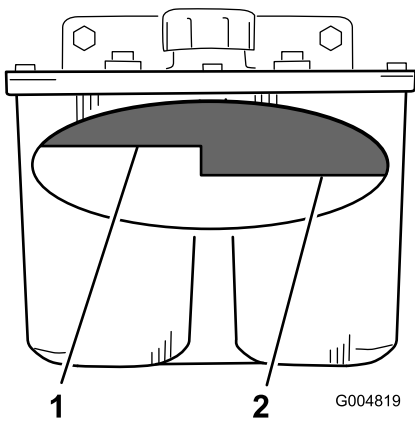

Figure 69
2. Clean the area around filler neck of hydraulic tank (Figure 69).
3. Remove the cap from the filler neck. Look inside to check if there is fluid in the reservoir (Figure 69).
- Note:** The fluid level should be to the top of the hot level of the baffle, when the fluid is hot (Figure 69).